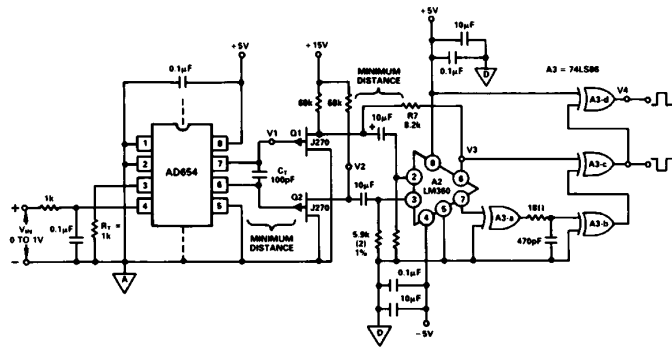

Figure 13. 2 MHz, Frequency Doubling V/F
Figure 13 illustrates this with a circuit offering 2 MHz full scale. In this circuit the AD654 is operated at a full scale (FS) of 1 mA, with a C_T of 100 pF. This achieves a basic device FS frequency of 1 MHz across C_T . The P channel JFETs, Q1 and Q2, buffer the differential timing capacitor waveforms to a low impedance level where the push-pull signal is then ac coupled to the high speed comparator A2. Hysteresis is used, via R7, for non-ambiguous switching and to eliminate the oscillations which would otherwise occur at low frequencies.
will also help stability. Figure 14 shows the waveforms V1-V4 found at the respective points shown in Figure 13.